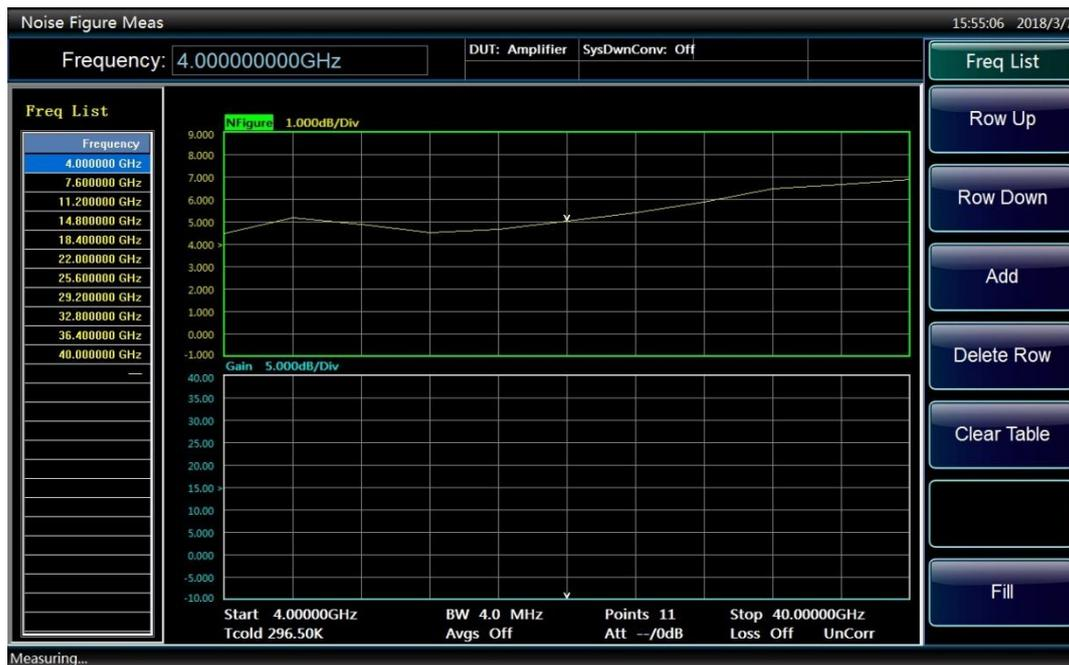

Fig. 3.28 Typical frequency list with entered data
- Step 5.** Repeat Step 4 until your frequency list is completed. The frequency list with data entry is shown in Fig. 3.28.